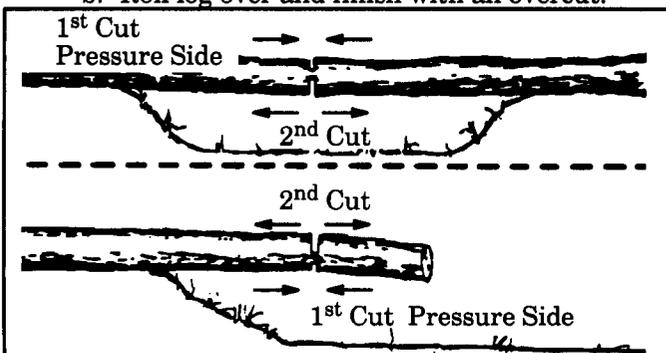

Figure 21
- f. Give special attention to logs under strain to prevent the saw from pinching. Make the first cut on the pressure side to relieve the stress on the log. Figure 21 .